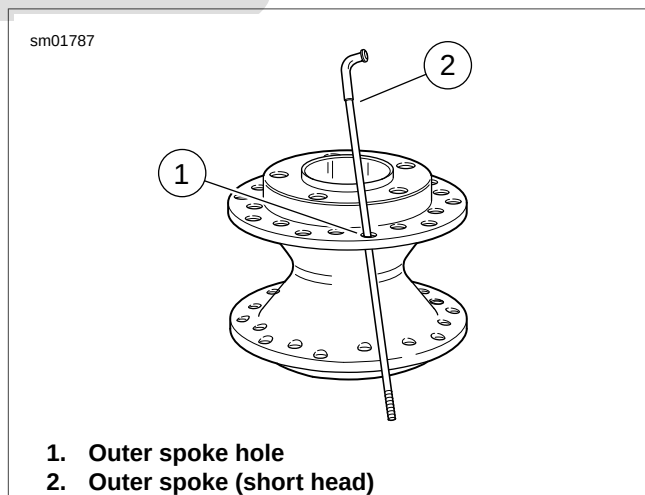

Figure 2-46. Lacing 21 Inch Wheel Hub
3. See Figure 2-46. Place hub on bench with the brake disc side up. Insert one outer spoke (short-head) into an outer top flange hole and swing it counterclockwise. Insert an inner spoke (long-head) in the next hole to the right of the outer spoke. Swing the inner spoke clockwise under the outer spoke.